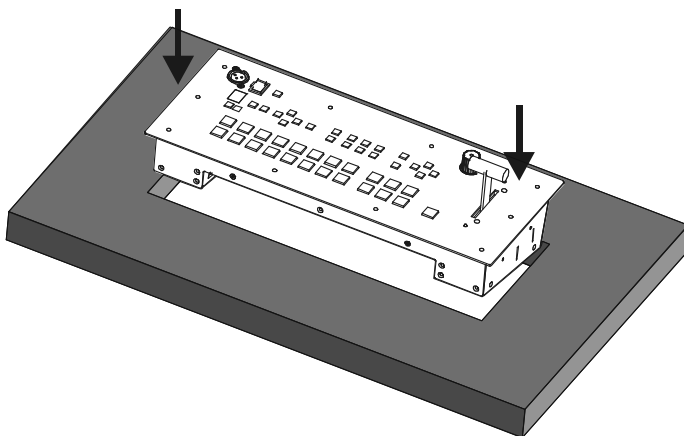

Figure 4: Inserting the VP-727T into the Prepared Cut Out Opening
2. Carefully insert the **VP-727T** unit into the prepared cut out opening, as illustrated in Figure 4.